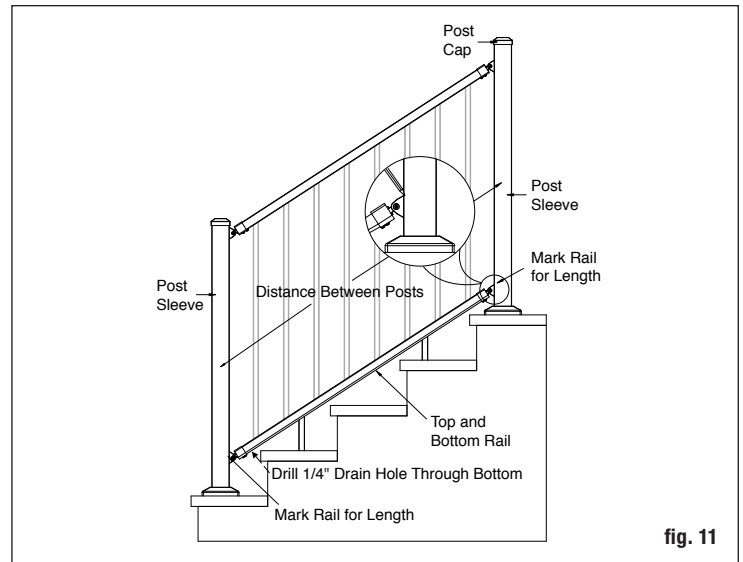

fig. 11
Step 9: A rail support is needed every 2 feet (**2 are included in the 6ft rail kit, 3 in the 8ft kit**). Attach rail support connectors to the bottom of the lower rail at 2-foot intervals using included screws. Predrill using a 1/8" drill bit. Mark the location of the rail support on the step tread and attach the other rail support connectors to the step tread (fig. 11). **Drill one 1/4" drain hole through the bottom of the rail to prevent trapping water. Position the hole toward the lower end of the rail, roughly 1.5" from rail end to avoid the lower bracket.**